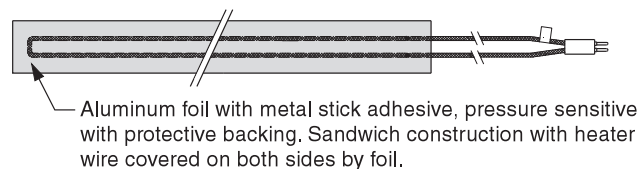
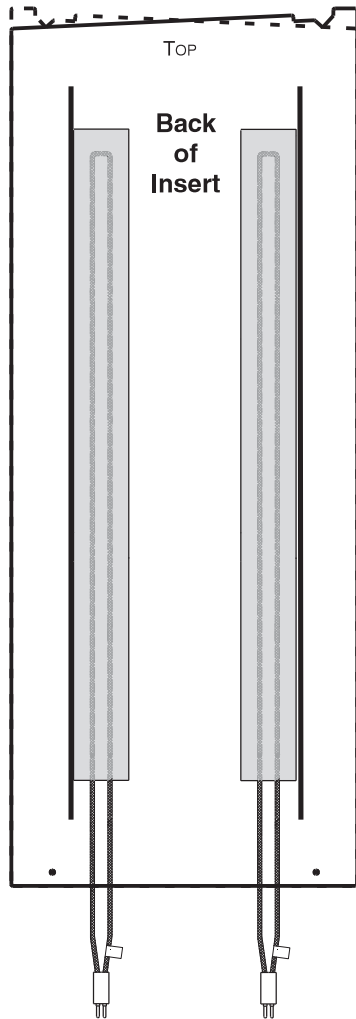

Figure 3 — A/S Heater 0495013
Figure 4 — Apply Heaters
10. Peel off white backing from each heater (Figure 3), then apply along the lines drawn earlier as shown in Figure 4.